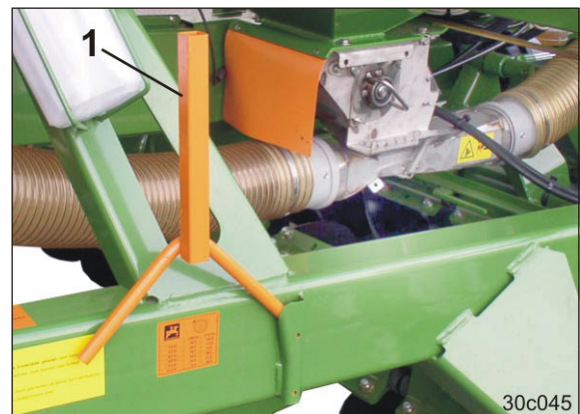

Fig. 129
7. Remove the calibration crank (Fig. 129/1) from the transport bracket.